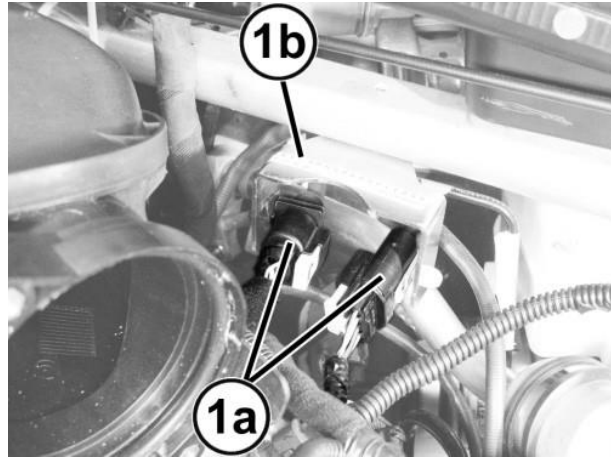

Figure 51 – Electrical Connectors
37. Release the electrical connections (1a) from the bracket (1b) and move it out of the way (Figure 51).